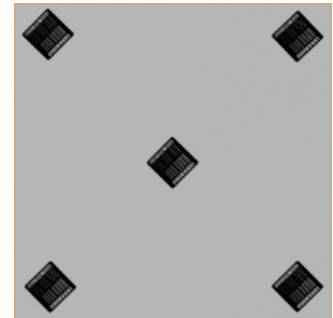

Figure 1
1. Visually check the performance of the instrument by performing exposures using a phantom or a resolution chart in 4 corners of the image and in the center of the image. Figure 1